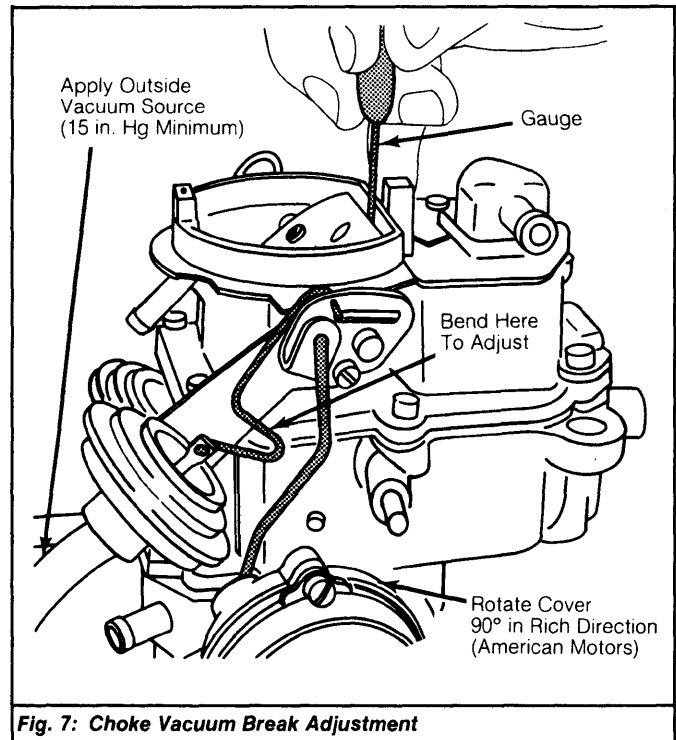

Fig. 7: Choke Vacuum Break Adjustment
1) On American Motors models, remove choke coil cover retaining screw. Rotate choke coil cover 90 degrees in "Rich" direction. Install and tighten one slot-type retaining screw. On all models, place fast idle speed screw on highest step of fast idle cam. See Fig. 7.